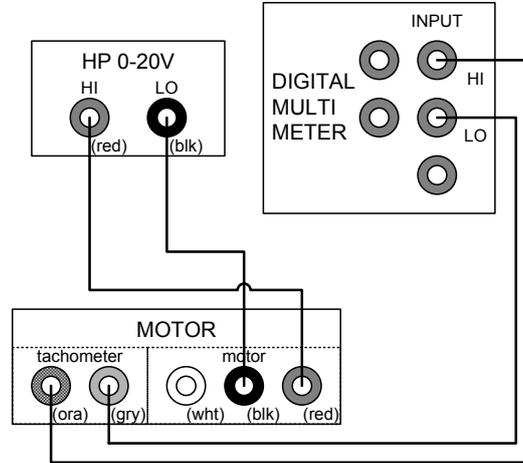

Figure 4.6: Wiring Diagram for measuring  $V_i$ ,  $i_a$  and  $V_{\text{tach}}$
1. Remove the potentiometer from the motor assembly. Adjust your wiring to match figure 4.6.